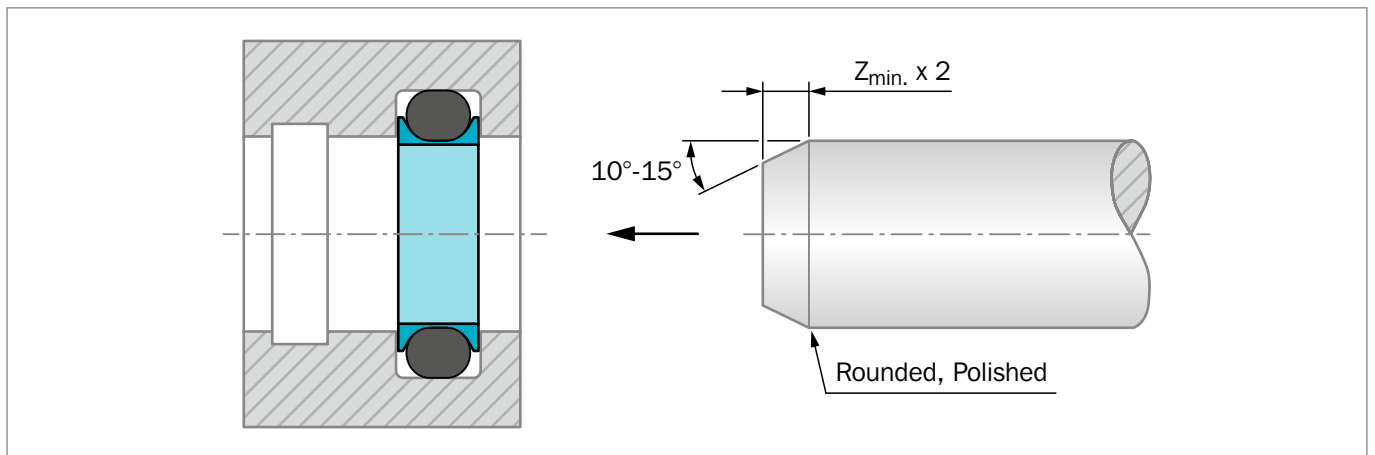

Figure 15: Calibration of the installed seal by means of a calibration mandrel
- Finally, size the seal ring using a mandrel, see Figure 15, which should have a chamfer of 10° to 15° over a minimum length of 2 x lead-in chamfer length  $Z_{min}$  see Table 3